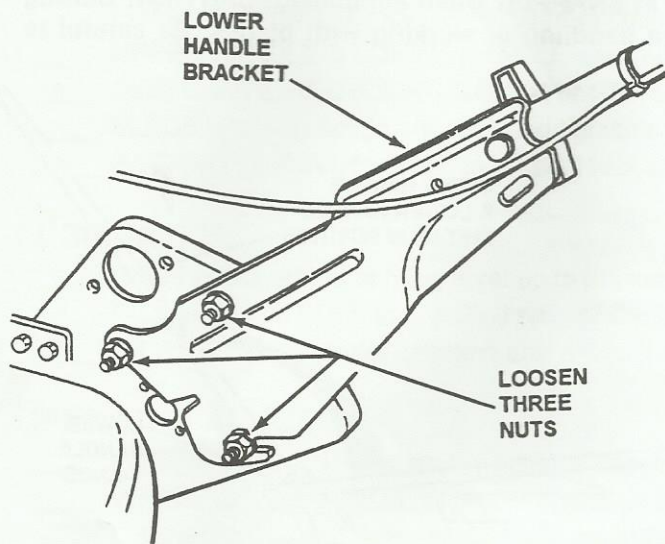
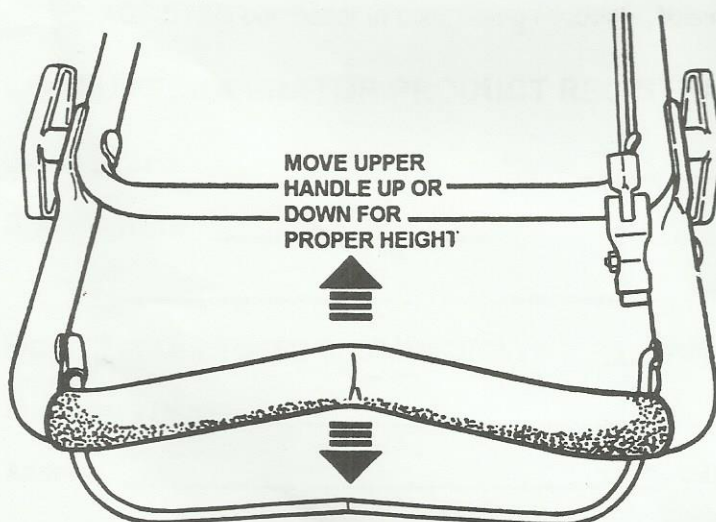

FIGURE 4
FIGURE 5
STEP 5: Handle height is adjustable for different height of operators. Loosen the three nuts on the inside of each of the lower handles. See Figure 4. Move the handle up or down to the desired height. See Figure 5. Retighten all nuts securely after adjustment.